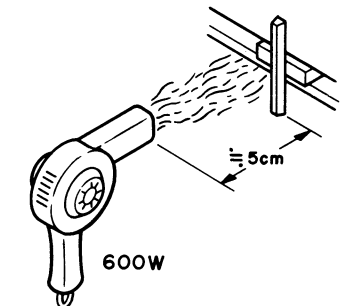
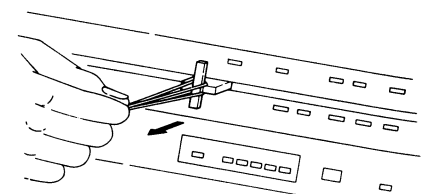

Figure 6-4
Figure 6-5
6. In the case of removing only dial pointer from the dial scale plate, do the process 1 to 5 as previous stated and then keep the dial pointer sticking to the dial scale plate. Next, heating the dial pointer up by using a hot-blowing drier for about a minute (See Fig. 6-4), remove it while hooking a string over its root as shown Fig. 6-5, so that it can be removed from the dial scale plate.